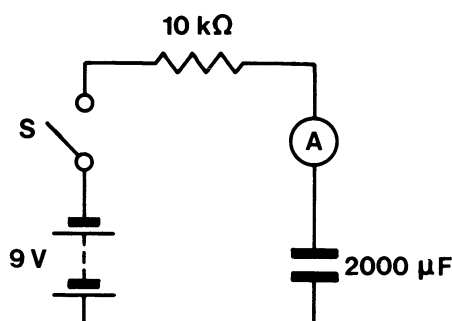

FIG. 3.56
42. (a) To study the charging of a capacitor the circuit of Fig. 3.56 is used.